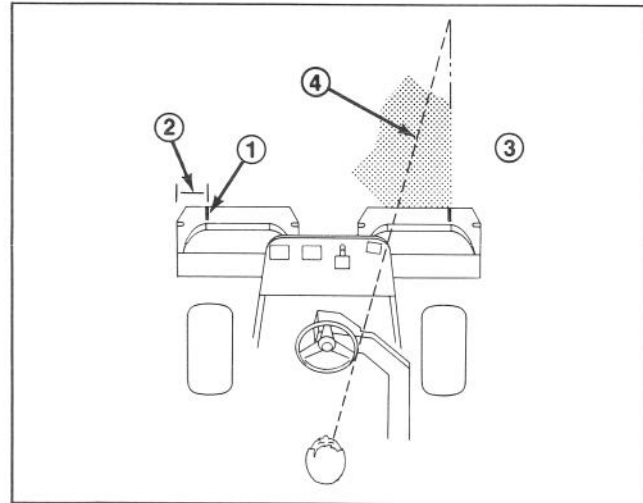

Figure 24
2. Either place a strip of white tape or paint a line onto each basket paralleling the outer edge of each basket (Fig. 24).
3. Overlap a minimal amount with the previous cut on return passes. To assist in maintaining a straight line across the green and keep the machine an equal distance from the edge of the previous cut, establish an imaginary sight line approximately 6 to 10 feet (1.8 to 3 m) ahead of the machine to the edge of the uncut portion of the green (Fig. 24, 25). Some find it useful to include the outer edge of the steering wheel as part of the sight line; i.e., keep the steering wheel edge aligned with a point that is always kept the same distance away from the front of the machine (Fig. 24, 25).